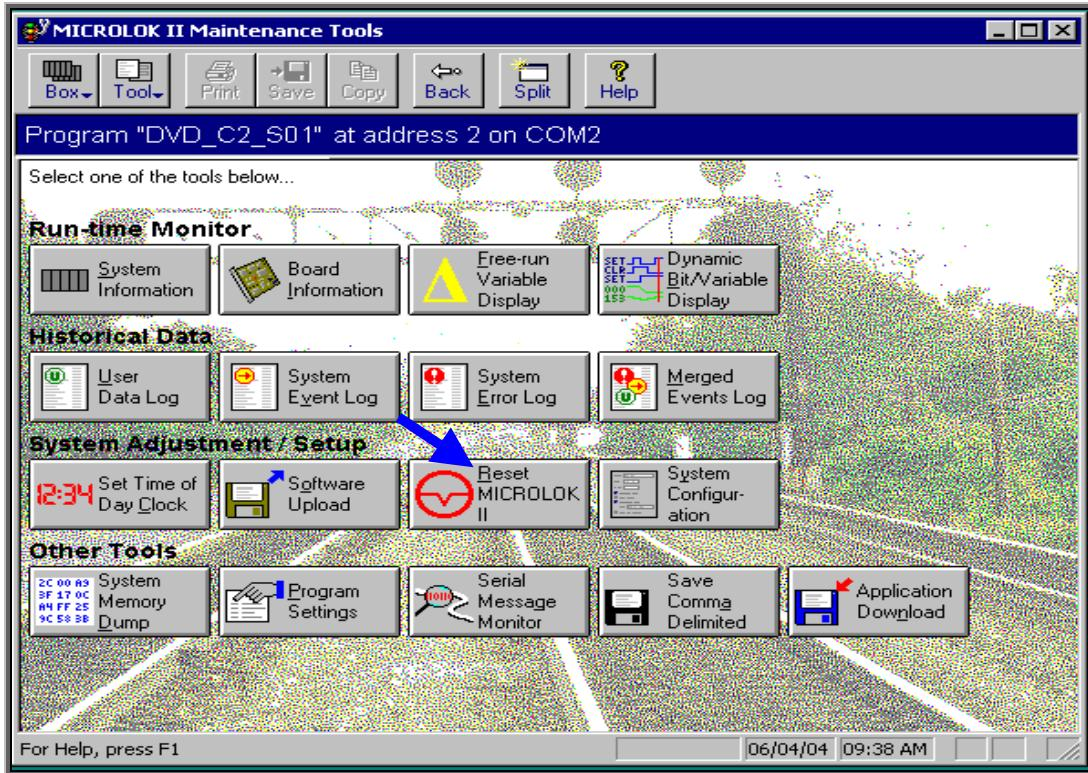

Figure-5.8.1
- ❖ To reset the Microlok II CPU, click on the “Reset MICROLOK II” button on the Maintenance Tools main menu (Figure-5.8.1).